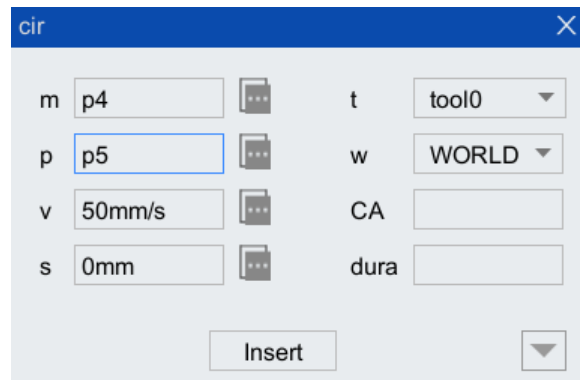

Figure 10-23 The cir instruction configuration interface
Step7. Click [cir] to pop up the cir configuration interface (as shown in Figure 10-23), complete the parameter configuration, and click <Insert> to generate the first track end-point command.